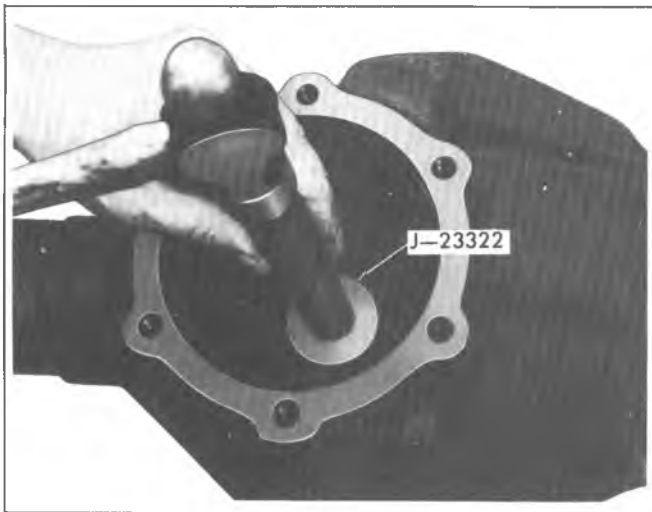

Fig. 14E--Installing Straddle Bearing
4. Install the pinion straddle bearing into the carrier housing, using driver handle J-8092 and installer J-23322, as shown in figure 14E.